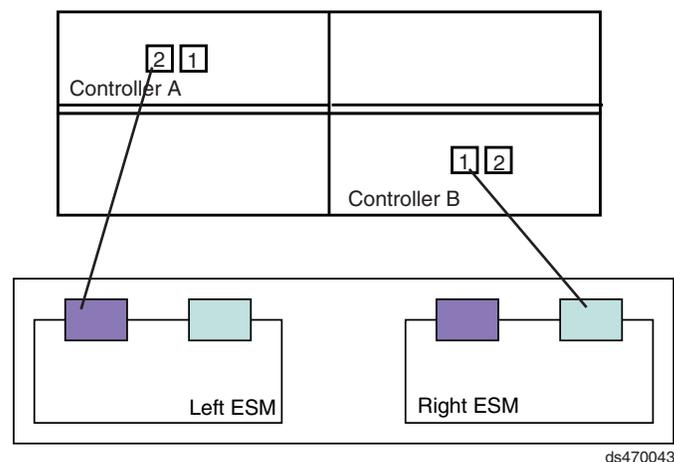

Figure 50. One DS4700 Express and one storage expansion enclosure — Recommended cabling
If you are cabling one DS4700 Express Storage Subsystem to one storage expansion enclosure, Figure 50 shows the recommended cabling topology.
**Note:** Figure 50 illustrates the drive channel connections between the DS4700 Express and the storage expansion enclosures. Do not use Figure 50 as the cabling diagram. Follow the instructions in “DS4700 Express Storage Subsystem and supported storage expansion enclosure drive cabling schemes” on page 76 for specific cabling instructions.